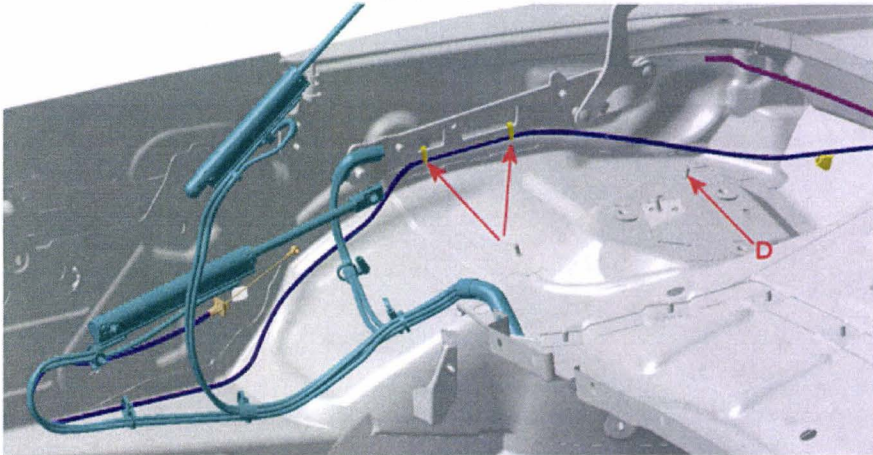

Figure 8
9. The final route and clipping arrangement is detailed in Figure 8. **Note:** The original stud and clip position previously securing the Bowden cable at point D is not to be used with this new arrangement